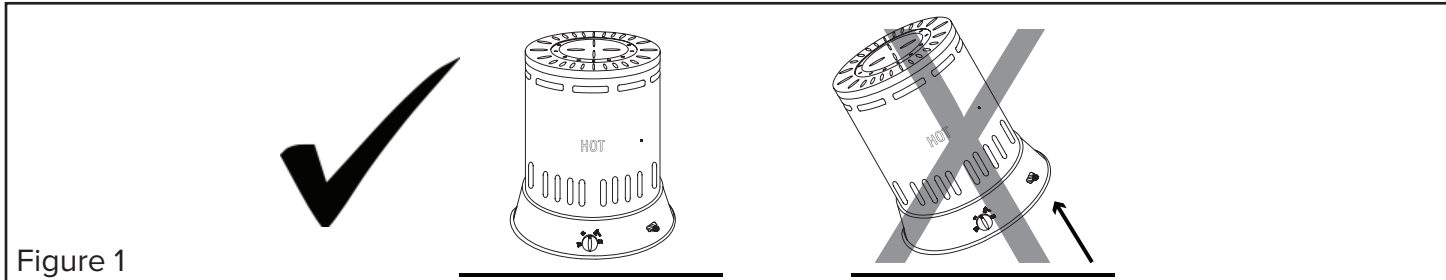

Figure 1
**▲ WARNING RISK OF FIRE! ALWAYS LOCATE HEATER ON A STABLE AND LEVEL SURFACE! (SEE FIGURE 1)**